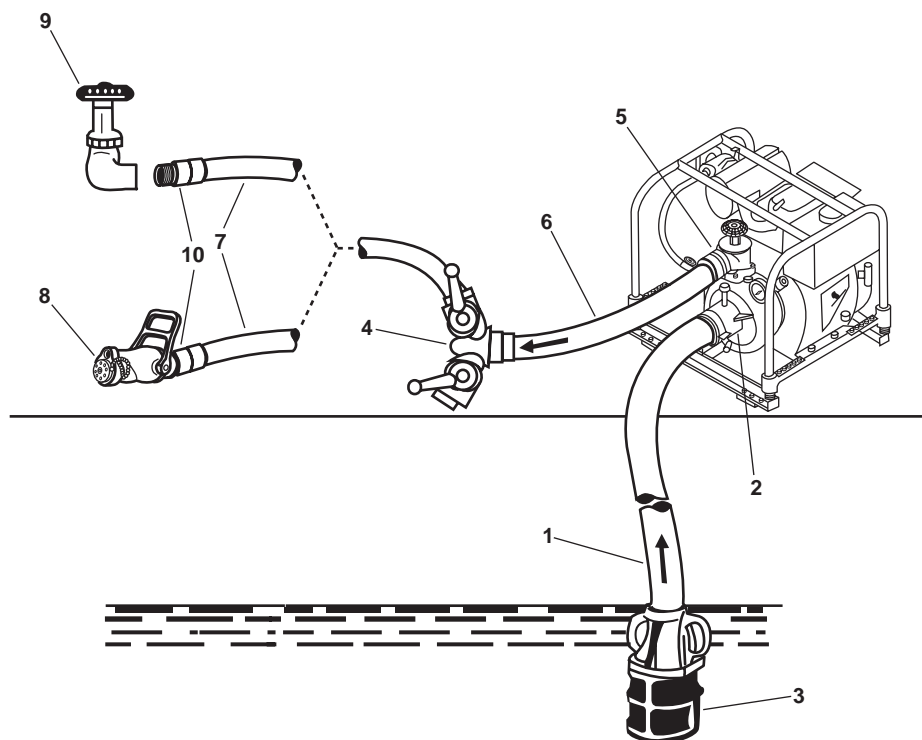

Figure 5. P-100 Portable Pump
1. Attach a 3 inch suction line (figure 5, item 1) to pump suction fitting (figure 5, item 2).
2. Lower the suction hose section into the water making sure that the foot valve/strainer unit (figure 5, item 3) remains submerged at least 1 foot throughout the operating period.
3. Attach a wye-gate (figure 5, item 4) to the pump discharge (figure 5, item 5) fitting by using a short 2½ inch diameter extension hose (figure 5, item 6).
4. Attach one or two 1½ inch fire hoses (figure 5, item 7) with nozzles (figure 5, item 8) to the wye-gate (figure 3, item 4).
1. Attach a 3 inch suction line (figure 5, item 1) to the pump suction fitting (figure 5, item 2).
2. Lower the suction hose section into the water making sure that the foot valve/strainer unit (figure 5, item 3) remains submerged at least 1 foot throughout operating period.
4. Attach a 1½ inch fire hose (figure 5, item 7) to the wye-gate (figure 5, item 4).
5. Attach the 1½ inch fire hose (figure 5, item 7) to the fire station cutout valve (figure 5, item 9) by using a 1½ inch male to female adapter (figure 5, item 10).